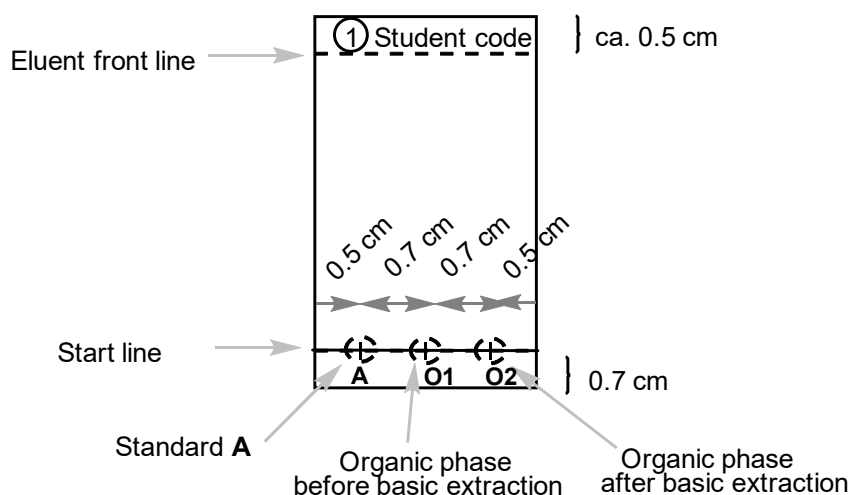

Figure 2. Instructions for the TLC plate preparation.
- Prepare your TLC plate. Check it before use. Unused damaged plates will be replaced upon request without penalty. Use a pencil to draw the start line and mark the positions for spotting the samples. Write number **1** in a circle and your student code on the top of the TLC plate as shown in Figure 2. Dissolve the given sample of 2-acetonaphthone in a vial (**Standard A**) in approx. 2 cm³ of ethanol (about 1 full glass Pasteur pipette). Mark three spot positions and label them **A**, **O1**, and **O2**. Spot 1 μl (one mark of the 5 μl capillary spotter) of standard **A** and the combined organic phase from step II.3 (**O1**). You will add spot **O2** later.